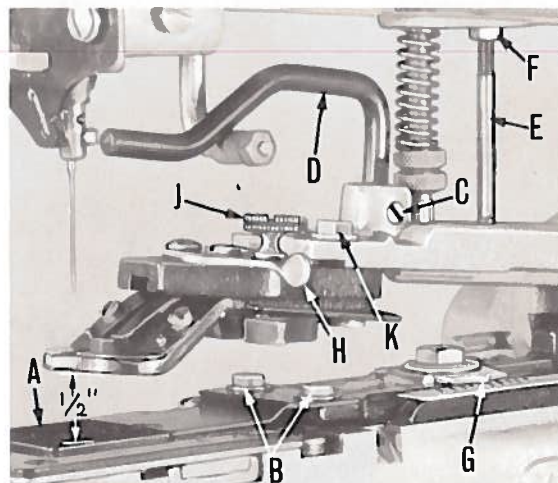
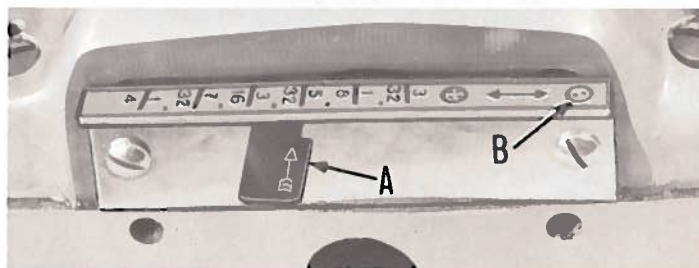

Fig. 7
Fig. 11
Make sure that the feed plate (A, Fig. 7) is set so that it does not interfere with the needle at any point of its travel.
With the machine in stop position, the normal distance between the bottom of the button clamp to the top of the feed plate should be $\frac{1}{2}$ inch (Fig. 7). To make this adjustment, loosen set screw (C), and raise or lower rod (D).
Return the machine to stop position, and check the position of the button clamp stop pin (E, Fig. 7). Its purpose is to prevent overthrow of the button clamp so that the needle will not strike the button or any other part of the button clamp. Insufficient clearance between the stop pin and the button clamp holder will cause the machine to re-cycle. Too much clearance will cause the button to strike the needle.
The stop pin, corresponding to (E, Fig. 7), should be set only as low as necessary to drop the feed plate holder off the latch when the machine has reached stop position.
Accurately measure the distance between the holes of the button, and set the pivot indicator (G, Fig. 7) and spring indicator (A, Fig. 11) to the graduations corresponding to the distance between the holes in the button.
With the machine in stop position, insert the button in the jaws of the clamp, and adjust the stop lever (H, Fig. 7) by means of screw (J) so that the button is held loosely by the jaws.
Set pivot indicator (G, Fig. 7) to proper graduation on scale corresponding to distance between holes of button, and set spring indicator (A, Fig. 11) on circle with two dots at left end of scale (B). Continue with adjustment of button clamp the same as for four hole buttons.
When sewing two hole buttons from back to front on Styles 200-6, 200-7, set pivot indicator (G, Fig. 7) and spring indicator (A, Fig. 11) to the proper graduations on scales, corresponding to distance between holes of button. Push in the lever located under the spring indicator (A, Fig. 11). This lever is not illustrated.